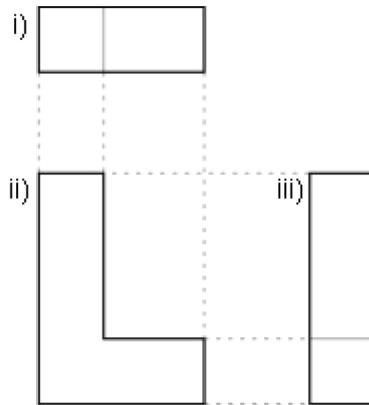

Figure 2
b) An orthographic projection of an engineered product is shown in Figure 2. Label the **three** views shown. (3 marks)